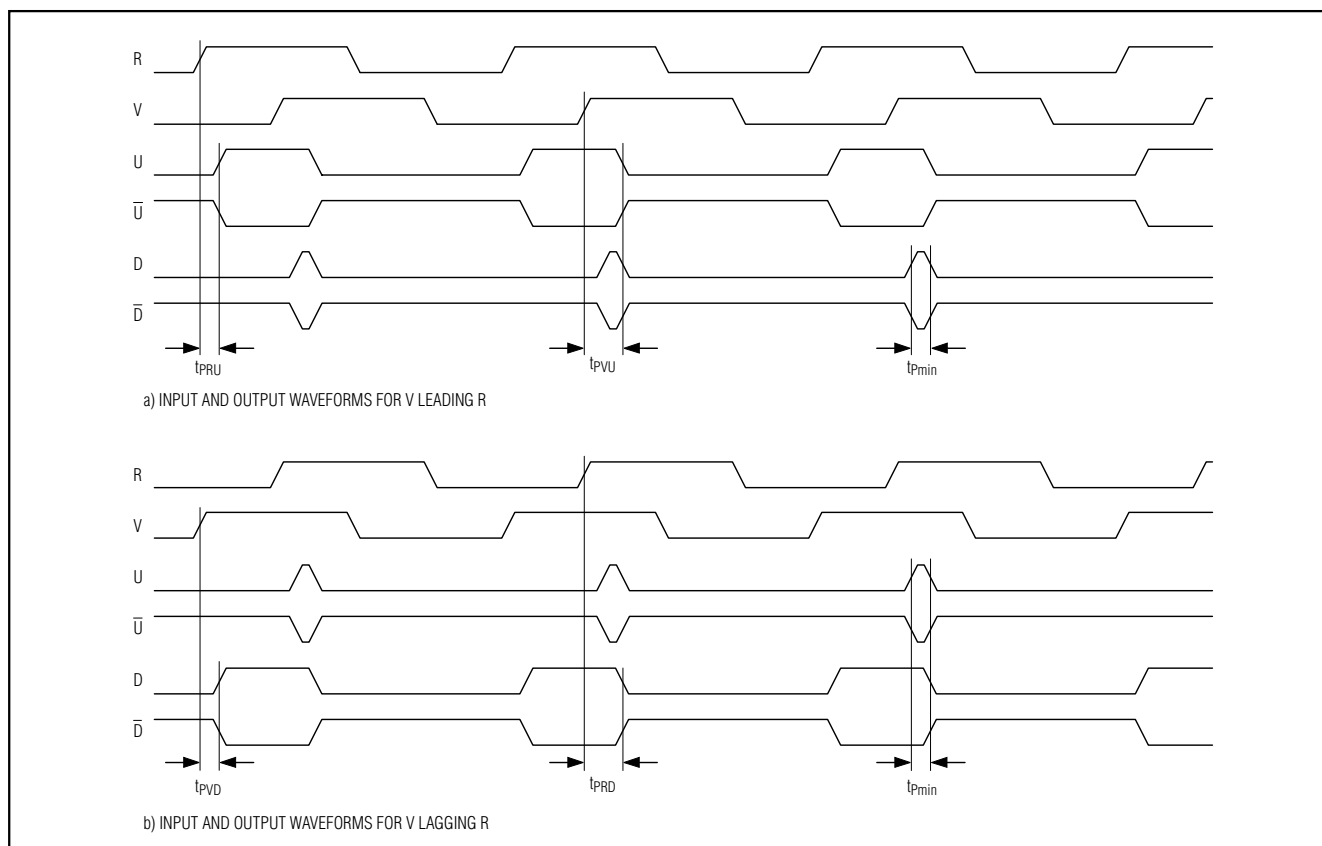
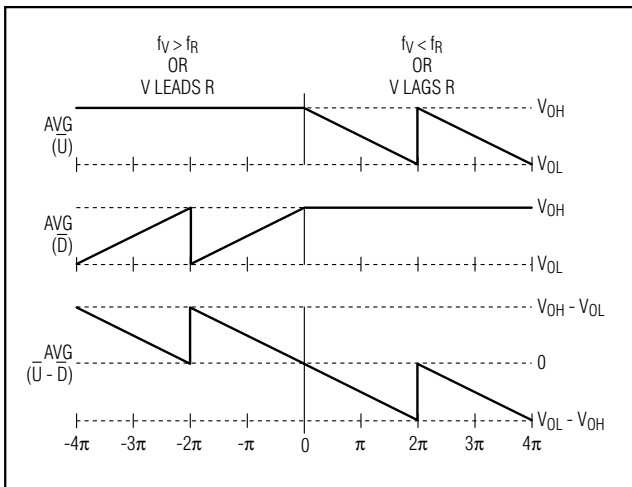

Figure 1. Typical Waveforms when $f_R = f_V$
Figure 3. Average Output Voltage vs. Phase Difference
The MAX9382/MAX9383 are intended for use in high-bandwidth PLL applications. These devices compare a single-ended VCO input (V) to a single-ended reference input (R) to determine the phase or frequency relationship between V and R. The device differential outputs U, \bar{U} and D, \bar{D} provide pulse trains with duty cycle proportional to the phase or frequency difference between R and V. These outputs are the up and down signals required to control the system VCO. Figure 1 shows typical waveforms when V leads R and V lags R. Subtracting and integrating these two outputs provide the necessary VCO control signal. Figure 3 shows the device transfer function obtained. The detector can